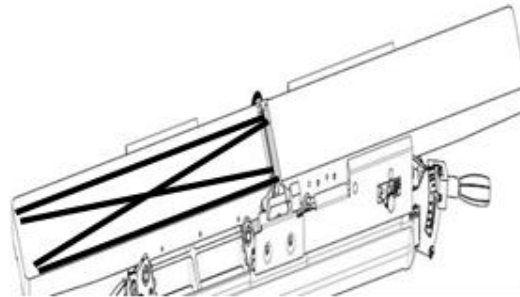

Figure 40: Checking Infeed Table
STEP 5: Place a straight edge in positionssshown in FIG. 40 to make sure outfeed table is parallel with the cutterhead.